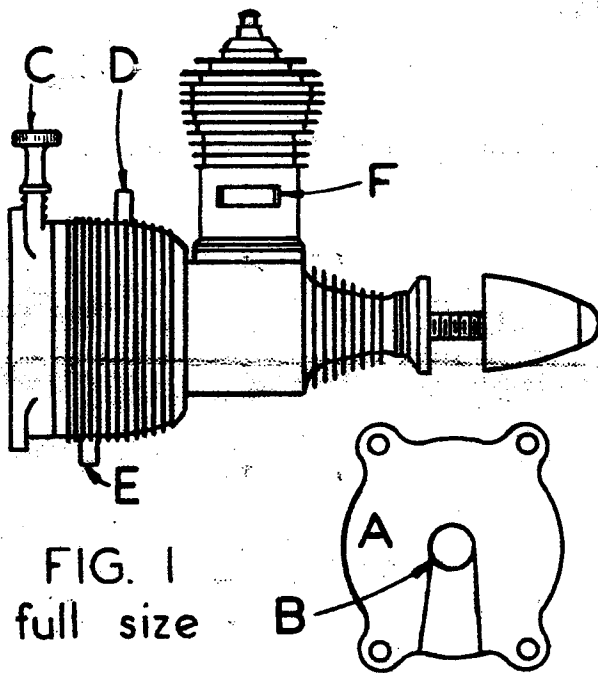

FIG. 1
1. Close the carburetor needle valve, C-Fig. 1, by turning it clockwise till it stops. Do not force it.
2. Slip the filler hose of your pump or fuel can over the filler tube, D-Fig. 1, pump in fuel till it overflows through E-Fig. 1. Do not use gasoline. Use **Thimble-Drome Fuel (in the red can.)**
5. Turn the propeller to the position so that the exhaust ports F-Fig. 1 are wide open. Squirt 5 or 6 drops of fuel into the cylinder through one of the port openings. This is called **priming**.